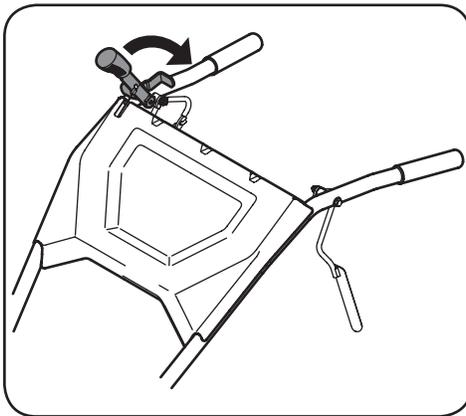

Figure 4-5
- b. Lift the handlebars until the tines are slightly off the ground and then pull the Reverse Control knob out to engage the reverse motion. See Figure 4-5.